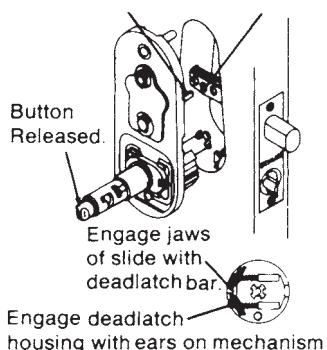

Figure 13.63 Install mechanism.
- Install the inside mechanism with the knob button released and the crank bar in the vertical position. Insert the end of the crank bar in the slot on the deadbolt (Fig. 13.63). Engage the jaws of the slide with the deadlatch bar, and engage the deadlatch housing with the ears on the inside mechanism. This sounds more confusing than it is; see the insert for Fig. 13.63.